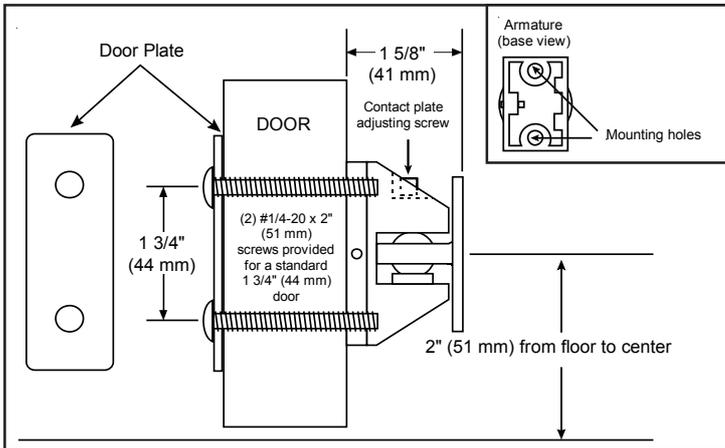
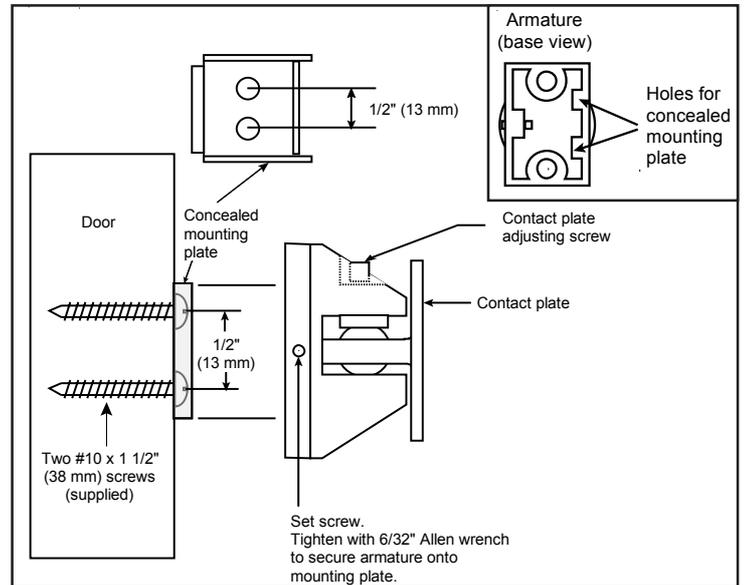

Figure 6. Thru-Bolt Mounting
Figure 7. Surface Concealed Mounting
1. Using a 5/32" Allen wrench, turn the contact plate adjusting screw (Figures 6 and 7) counterclockwise to loosen the contact plate.
- a. **Thru-bolt mounting (Figure 6).** Center punch the two holes (at the points marked in step 3) and drill 5/16" diameter through the door. Distance between the center points should equal 1 3/4" (44 mm).
Secure the armature assembly, with the contact plate adjust screw facing up, to the door as shown in Figure 6 using (2) #1/4-20 x 2" screws (supplied)
**NOTE:** For 2" doors, use (2) 1/4-20 x 2-1/4" bolts.
- b. **Surface concealed mounting (Figure 7).** Measure two points for 1/8" holes drilled 1/2" on center equidistant from each marked point. Center punch the holes and drill 1/8" diameter x 1 1/4" deep. Install the concealed mounting plate using the two #10 x 1 1/2" screws provided.
Align the holes for the concealed mounting plate in the armature base with the pins on the concealed mounting plate. Secure the armature assembly, with the contact plate adjust screw facing up as shown in Figure 7, to the door by tightening the set screw.